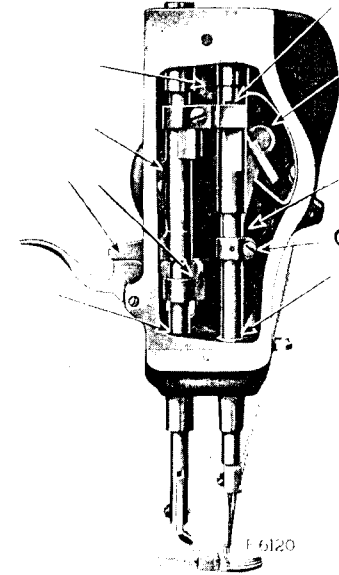

Fig. 20. End View of Machine, Showing Oiling Points
In case the needle bar is not correctly timed, loosen the needle bar connecting stud pinch screw (C, Fig. 20) and place the needle bar in the correct position as directed above, then retighten the screw (C).